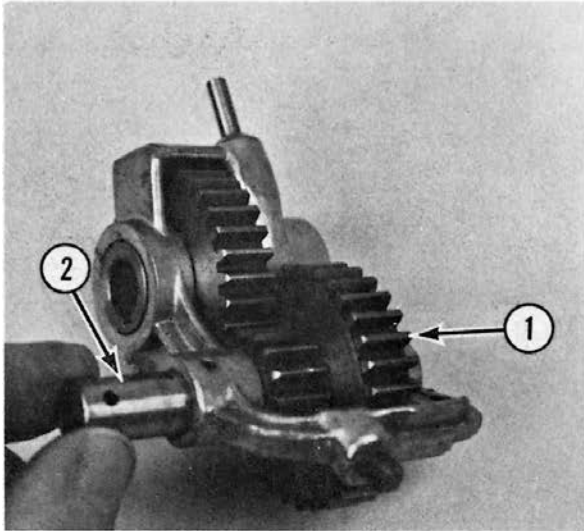

Fig. 3-25
- H. Install the transmission gear (15T and 31T) (1, Fig. 3-25) and the tumbler shaft (2, Fig. 3-25).